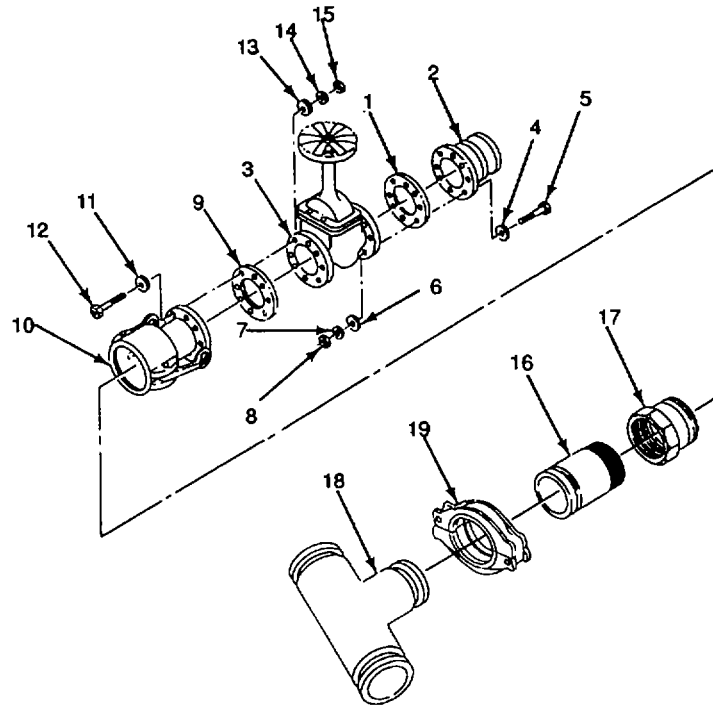

Figure 2-20. Discharge/Filler Hose Assembly
- (11) Place gasket (1, Figure 2-20) on 4-inch flange adapter (2). Place 4-inch gate valve (3) on flange adapter (2). Align holes in each part of assembly.